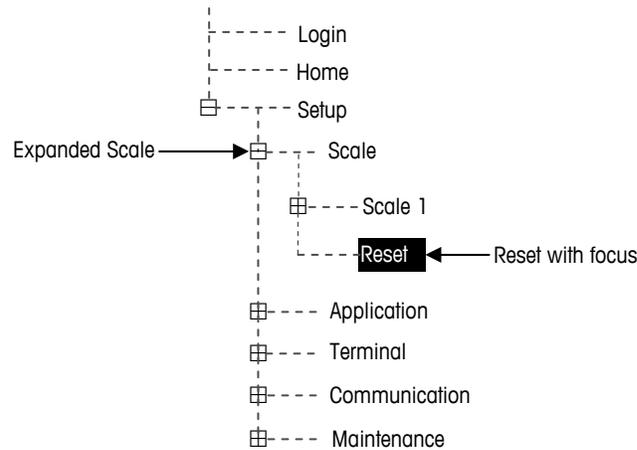

Figure 3-14: Setup Menu Tree—Reset
1. Press the SETUP  softkey. The setup menu tree displays (see Figure 3-14).